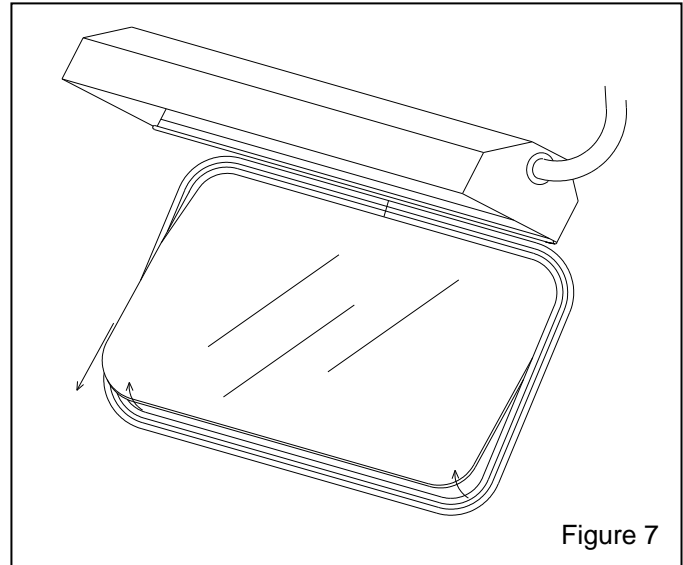

Figure 7
6.1.3 Place an arm into a glove, and push the bottom edge of the window out of the molding, as shown in Figure 7, while supporting the top of the window with the other hand.